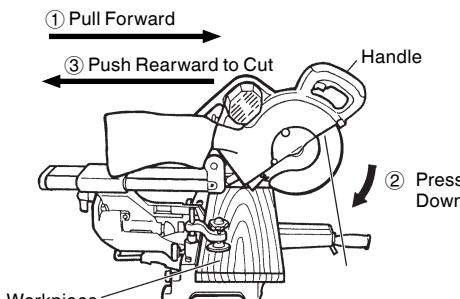

Fig. 28
Then press down on the handle and slide the saw blade back to cut the workpiece as indicated in Fig. 28. This facilitates cutting of workpieces of up to 3-11/32" (85mm) in height and 12-9/32" (312mm) in width.
- * For slide cutting, follow the procedures indicated above in Fig. 28.